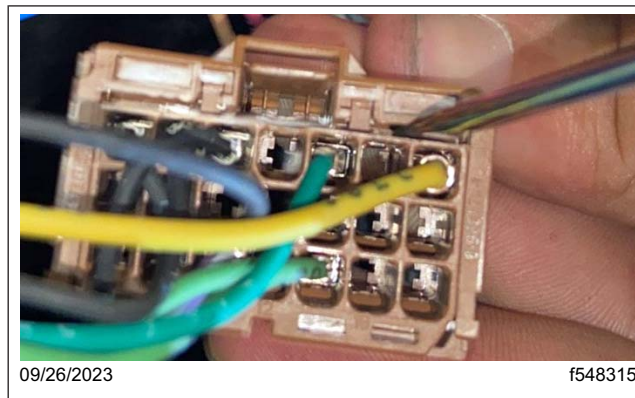

Fig. 47, Unlocking the XMC2 X3 Connector
- 13.5 Use a small flat screwdriver to gently pry up the top of the X3 connector, and unlock the connector, as shown in Fig. 47.